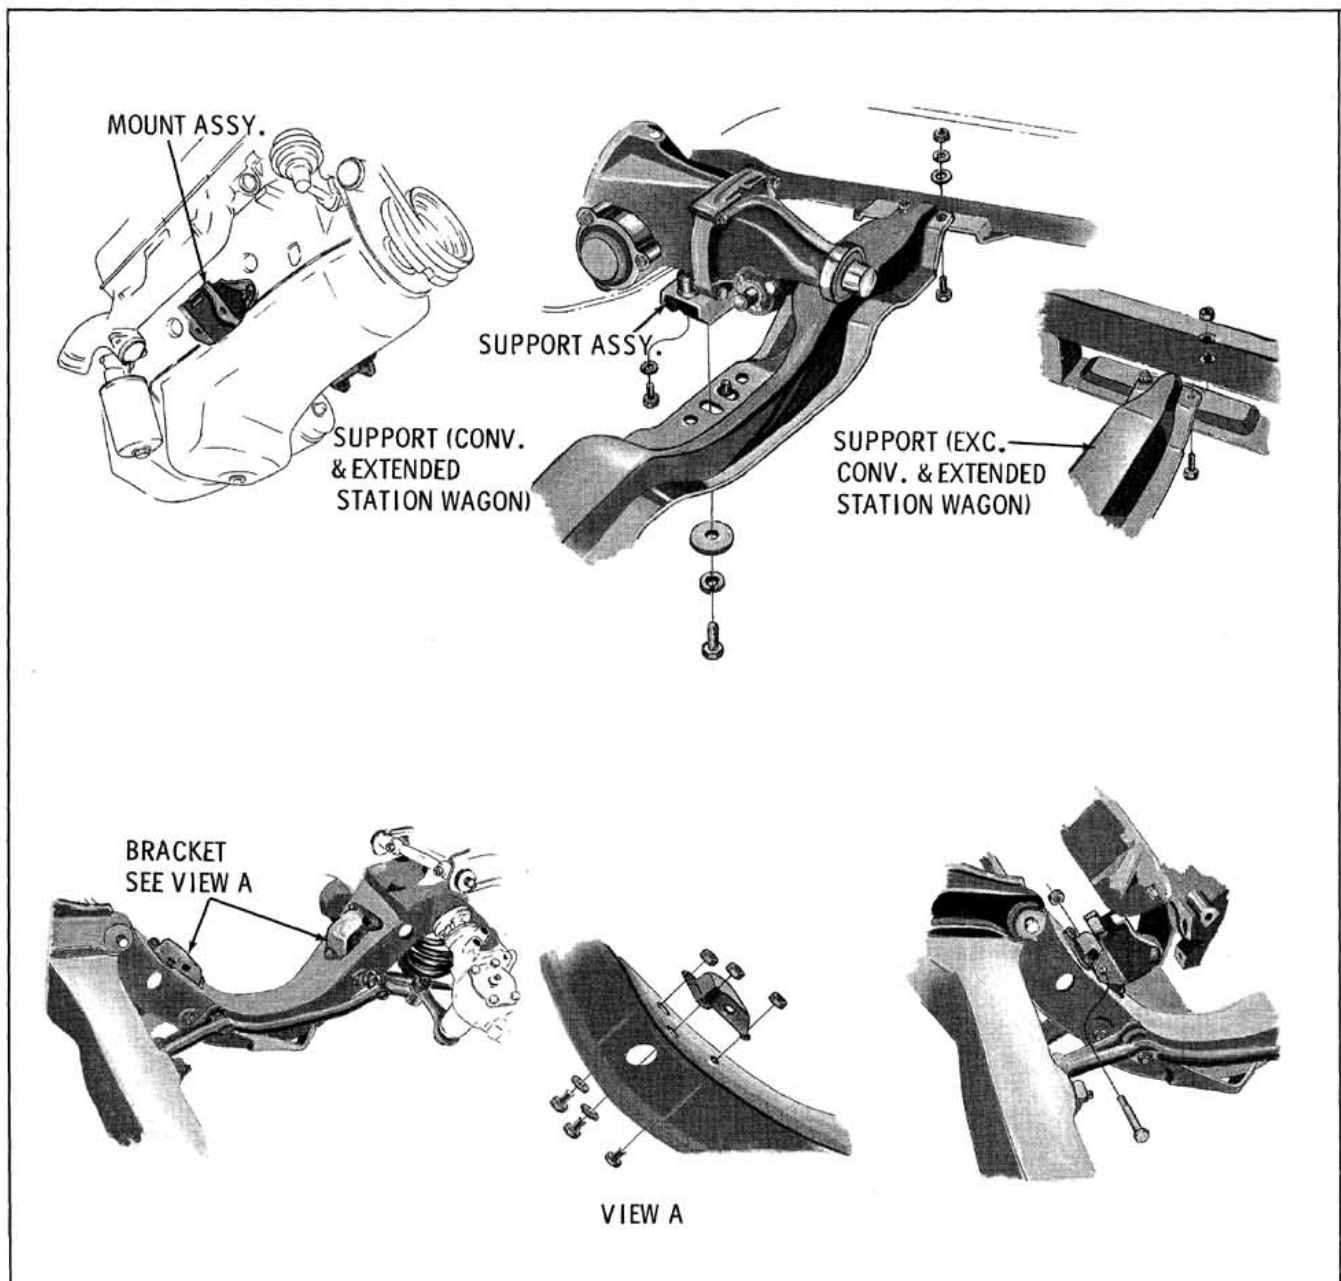

Fig. 3-151 Engine Mounts (33 through 38 Series)
1. Support engine with Tool BT-6501. (Fig. 3-151)